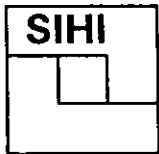

Figure 1
5.1 Code letter for Figures 1 to 4b